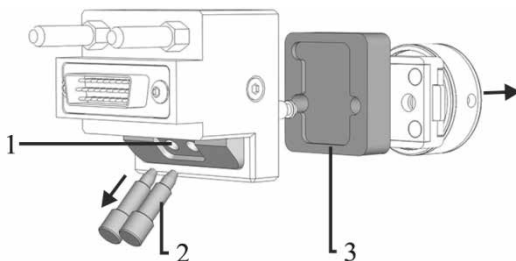

Fig. 4: Cell with storage plugs and shipping spacer (view from rear)
- ◆ From the flow inlet and outlet of the cell body (no. 1 in Fig. 4), remove the storage plugs (no. 2 in Fig. 4).
- ◆ Remove the shipping spacer (no. 3 in Fig. 4 above). To do so, remove the torque knob: